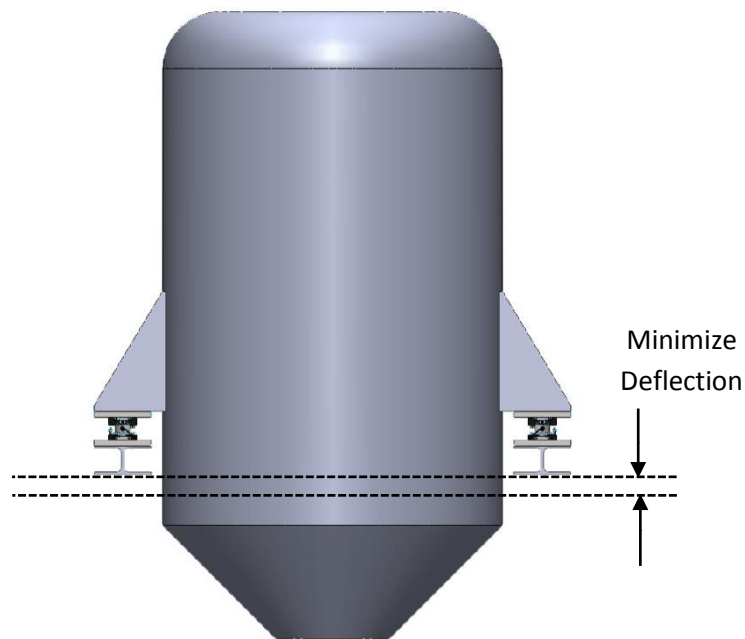

Figure 09 : Deflection limits of base support
- The base support structure for the weigh modules should deflect uniformly. A tank scale’s support structure should deflect as little as possible, and any deflection should be uniform at all support points (see figure 09). Excessive deflection can cause inlet and outlet piping to bind, creating linearity errors. When deflection is not uniform, it can cause repeatability errors and zero return errors.